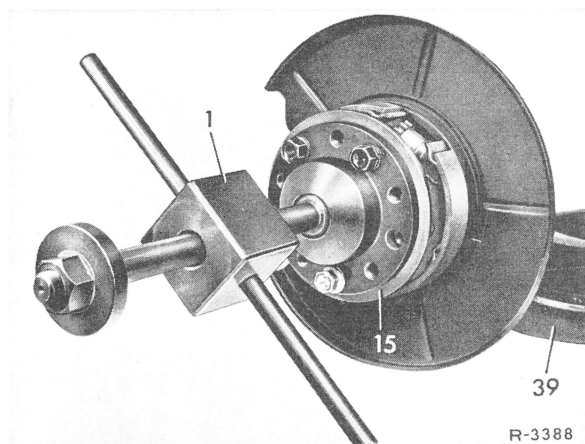

Fig. 7
**7** Knock rear axle shaft flange out of wheel carrier with fixture and remove bearing inner race together with spacer sleeve (Fig. 7).